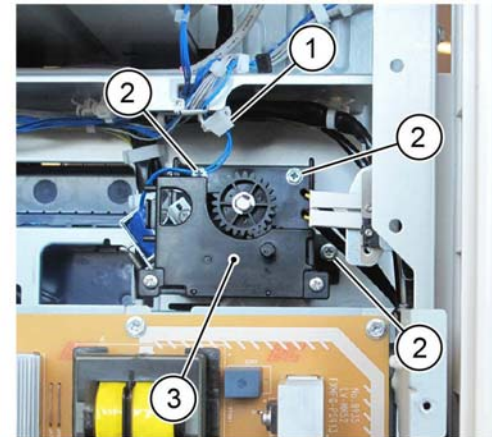

Figure 2 Exit 1 OCT assembly removal
5. Remove the exit 1 OCT assembly toward the rear, Figure 2:
- a. Disconnect the connector (1).
- b. Remove three screws (2).
- c. Remove the exit 1 OCT assembly (3) toward the rear.